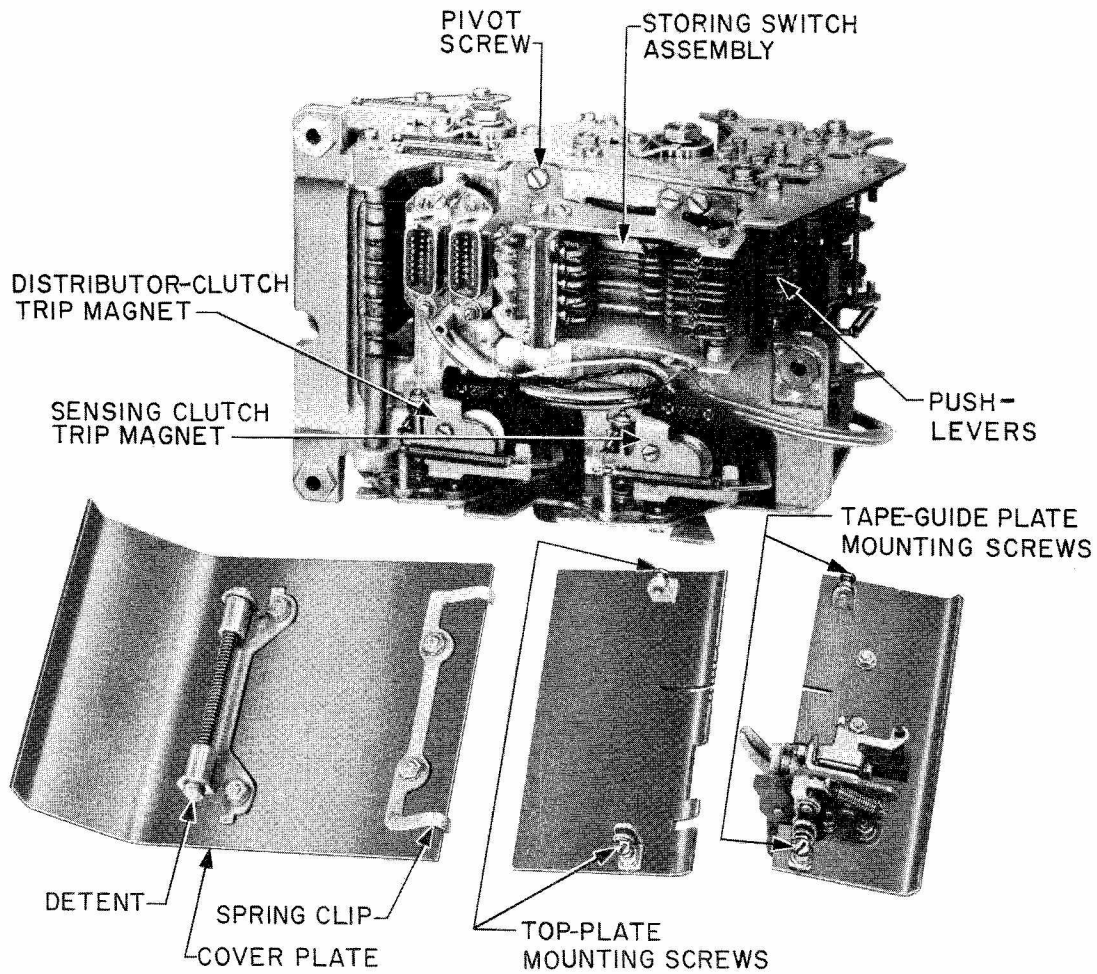

Figure 1 - Sensing and Transmitting Mechanism - Bottom View
2.02 Cover Plate: To remove the cover plate lift the left end upward and slide the plate toward the left to disengage the spring clip. (See Figure 1.)
2.03 Top Plate: To remove the top plate, loosen the front and rear mounting screws and lift the plate upward. (See Figure 1.)
2.04 **Tape-guide Plate:** To remove the tape-guide plate, loosen the front and rear mounting screws and slide the plate upward. (See Figure 1.)